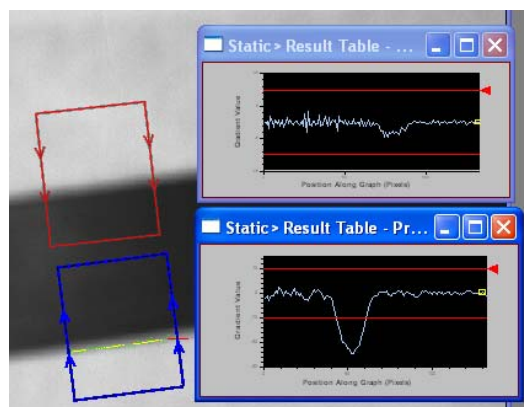

Figure 36: Area Measurement Vision Tools in presence of fuzzy edges. The gradient graphs indicate the width of the transition.
- Edge Width: This option lets the user indicate how many pixels determine the edges to be used. If the images are not well focused, the edges will not appear as sharp. In those cases, the user needs to give the Vision Tool an idea of the transition width to better calculate edge positions. Figure 36 illustrates the use of this option. The Vision Tool on the top edge does not find the fuzzy edge with the default edge width setting. The bottom vision tool's edge width setting is set much higher.